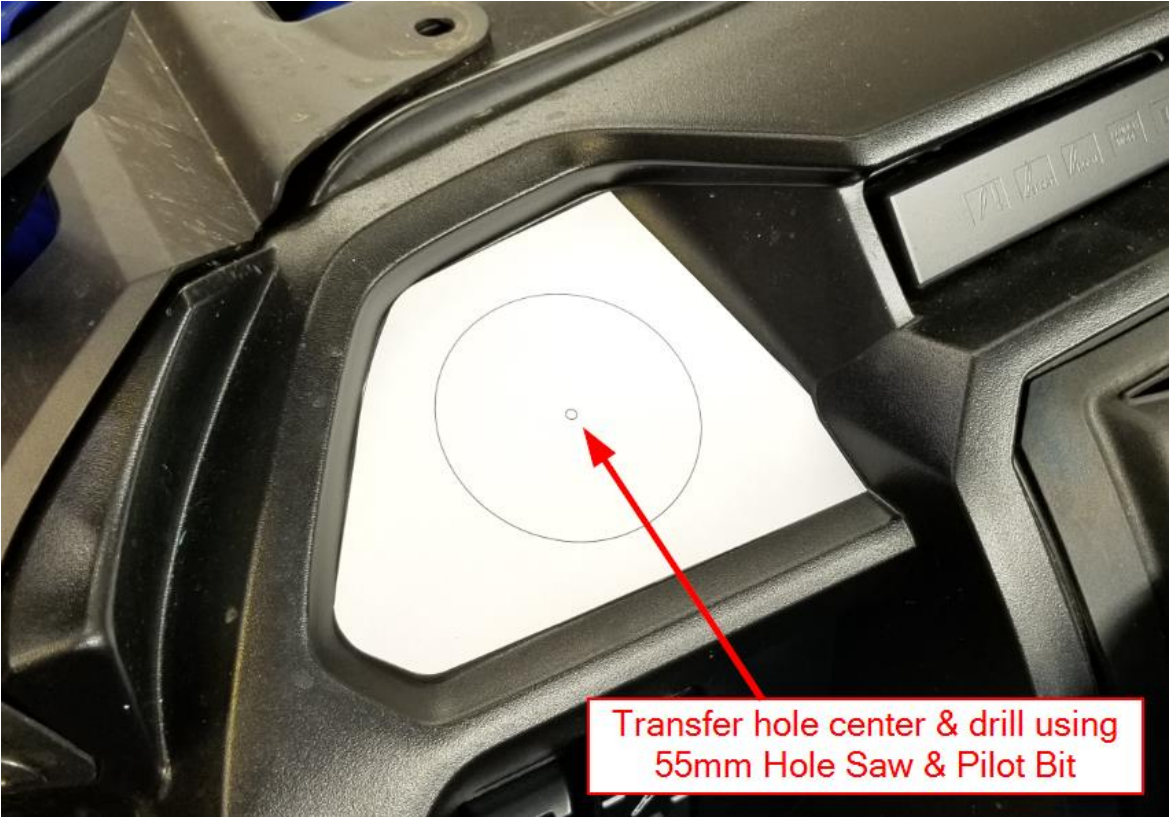

Figure 5
- a. Using the Driver Side Defrost Template, cut out the templates and position it as shown in Figure 5. Transfer the hole centers to the plastic dash and drill defrost vent holes using the included 55mm Hole Saw and Pilot Bit. Deburr as necessary. **Installation Tip: After cutting the 2" vent holes, use a razor blade to cut a small "V" shaped notch anywhere along the hole. Each 2" Vent has an anti-rotation notch molded into it, fit the notch into the 'V' groove for easier install, See Figure 6.**